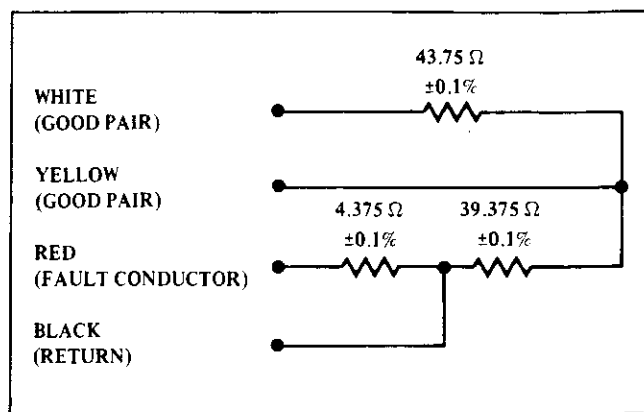

Figure 4-1. Test Fault Circuit Used in Dynatel 9003 Self-Test Cable
4-16. The following procedure accurately checks the Model 710A, the test cable and the extension cable. The test cable furnished with the 710A has an artificial line with four self-test terminals built into the top of the plug. The four terminals are colored white, yellow, red and black. The artificial line represents a cable that is 1000 ft. ± 1 ft long with 26 gauge copper conductors at a conductor temperature of 70°F. In addition, it has a test fault located at a distance of 100 ± 0.1 feet from the test set. See Figure 4-1.
6. Set the MEASUREMENT selector to FAULTMETER. The meter pointer should indicate FAULT on the FAULTMETER side of the panel meter. This means that a fault exists between the red and black clip leads, which are normally connected to the fault-conductor and the return, respectively. See Figure 4-1.